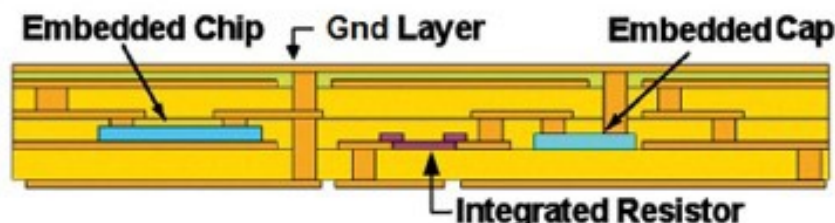

Fig. 2 - Diagram of components incorporated into a PCB
substratum itself, means raising the level of complexity within the electrical test. Not all the same stimuli can be applied to all the nets. However, the stimuli must be kept in mind and differentiated according to the circuit's configuration. For instance, to check for shorts, a high tension (HV) can no longer be applied "indiscriminately" on all the tracks, because of the presence of components between the layers. What is needed, therefore, is to be able to carry out a "low tension" test on nets with embedded components, and to apply the test in "high tension" for the remaining nets (Fig. 2).